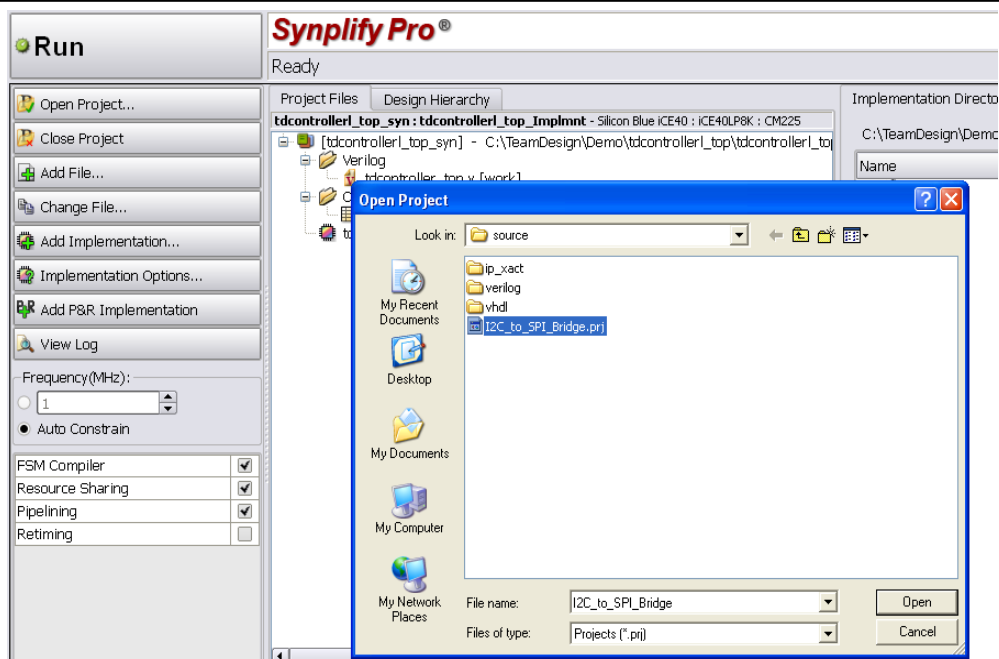
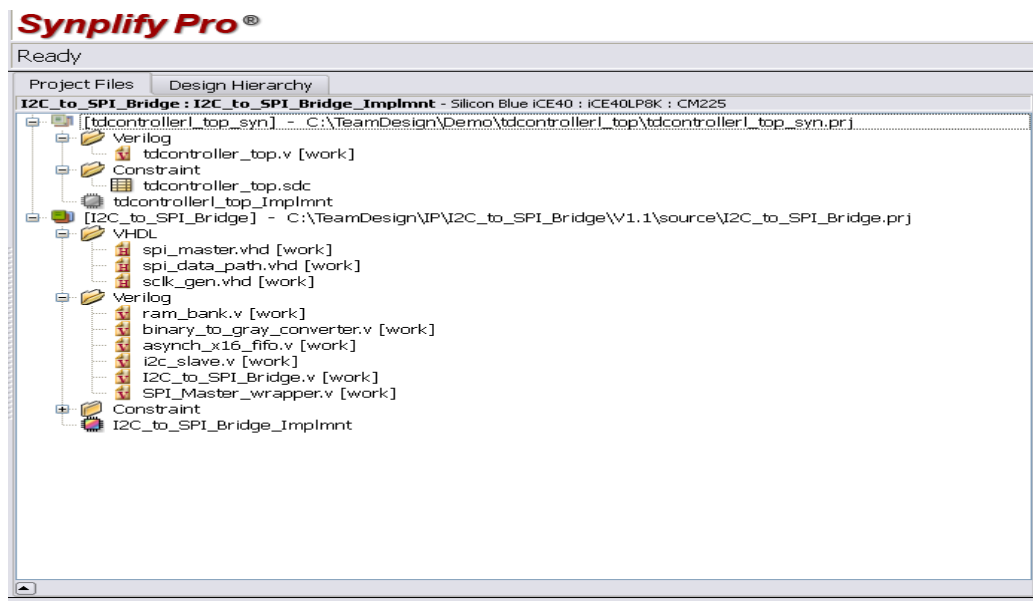

Figure 9-6: Select the I2C_to_SPI_Bridge.prj file
Figure 9-7 : Created IP Block Project
2. In Synplify Pro, click on the “Open Project” icon. Select “Existing Project” in the “Open Projects” dialog box. Browse to the “<user_IP_dir>/IP/I2C_to_SPI_Bridge/V1.1/source” location and add the existing “**I2C_to_SPI_Bridge.prj**” file as shown in Figure 9-6. This opens the “I2C_to_SPI_Bridge” project in Synplify Pro and automatically imports the required source files. See Figure 9-7.